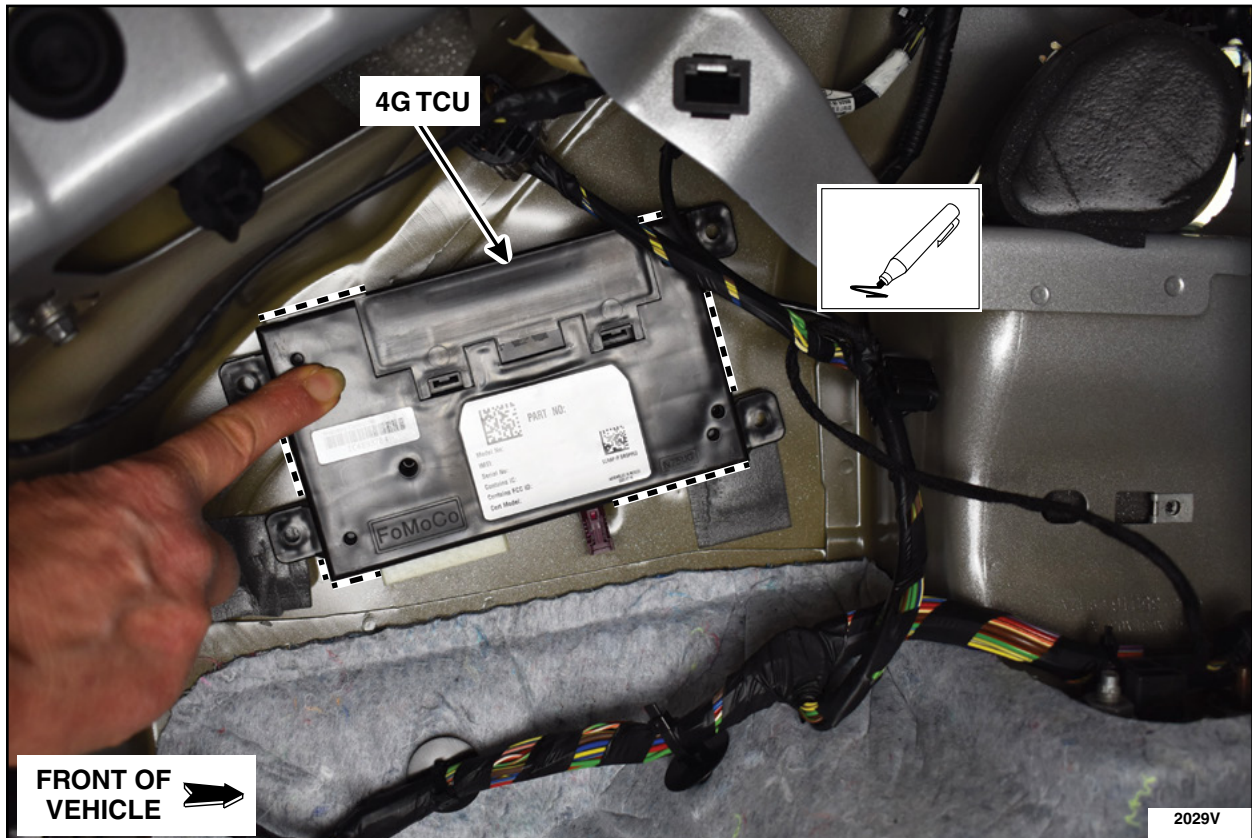

FIGURE 7
8. Temporarily place the 4G TCU in the position shown. Using a marker, mark the edges of the TCU onto the sheet metal of the vehicle. See Figure 7. Remove the TCU from the vehicle and place it on a bench metal side up.